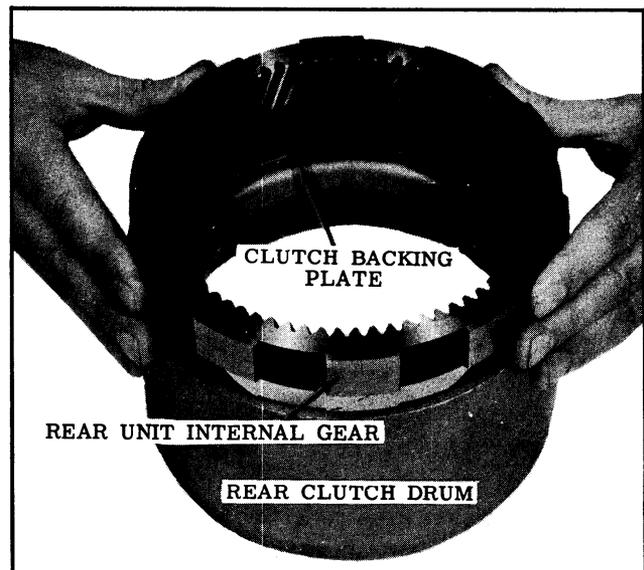

Fig. 3-67 Rear Unit Internal Gear Installation
- Place the rear unit internal gear on the backing plate. (See Fig. 3-67)